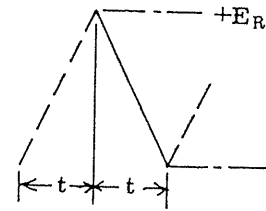

Fig.4-4
When the constant current that is charging capacitor C is expressed as I, and the voltage comparator is set at -E and +E, and time interval t from -E to +E at the output of integrator is set as shown in Fig. 4-4, the following formula ( 1 ) can be obtained
Since oscillation frequency f is  $t/2$  as shown in Fig.4-4, formula (1) is expressed as follows;